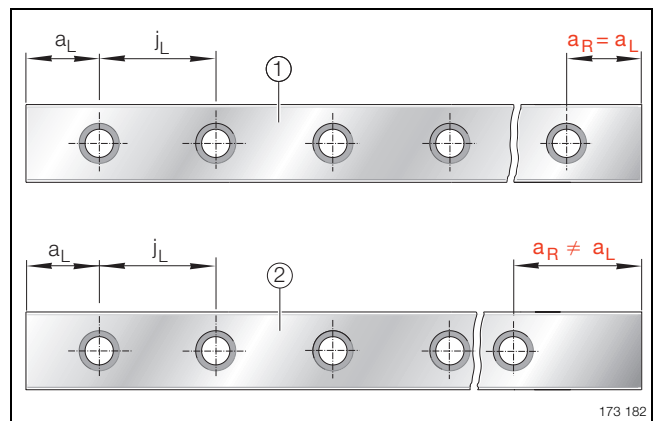

Figure 5 · Symmetrical ① and asymmetrical ② hole patterns for guideways with one row of holes
The guideways have a symmetrical hole pattern (Figure 5). For an asymmetrical hole pattern (customer request), the following must apply:
■  $a_L \geq a_{L\min}$  and  $a_R \geq a_{R\min}$  (Figure 5).